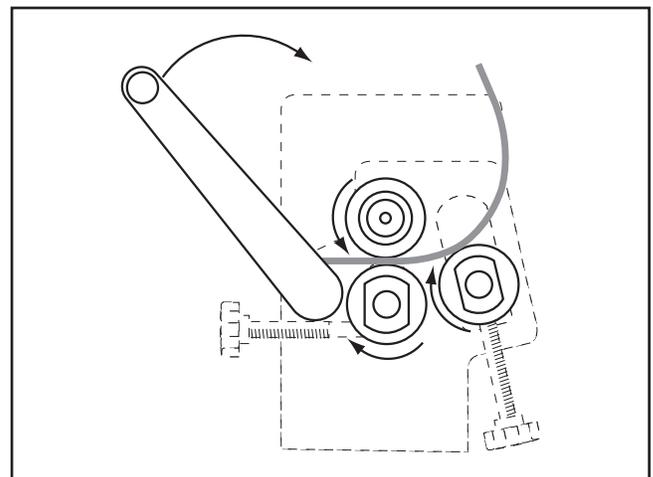

Figure 20. Processing the workpiece.
- Turn the crank to process the material through the slip roll. Continue turning until the workpiece is completely through the upper and lower rollers (**Figure 20**).